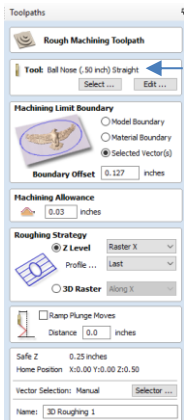
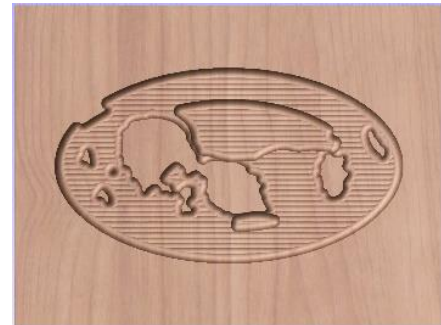

Fig. 3
Fig. 4
3. Select a Large End Mill or Ball Nose (.50" or larger) cutter to rough out the excess material (Fig. 3), complete the Roughing pass. (Fig. 4)